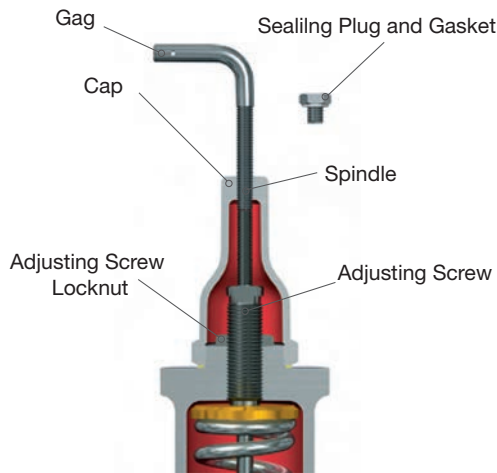

Figure 41: Hydrostatic Testing
When hydrostatic tests are required after installation of an SRV, remove the SRV and replace it with a blind flange. If the hydrostatic test pressure will not be greater than the operating pressure of the equipment, a test gag may be used. Very little force, i.e., hand-tight pressure, on the test gag is sufficient to hold hydrostatic pressures. Too much force applied to the gag may bend the spindle (15) and damage the seat. After a hydrostatic test, the gag must be removed and replaced by the sealing plug furnished for this purpose (see Figure 41). (Test gags for Consolidated SRVs can be furnished for all types of caps and lifting gears.)
Since the deadweight of a Packed Lever, and Air-Operated Packed Lever has a tendency to lift the valve, the lever should be supported or counterweighted so that the lifting fork does not contact the release nut (see Figures 41 and 42)